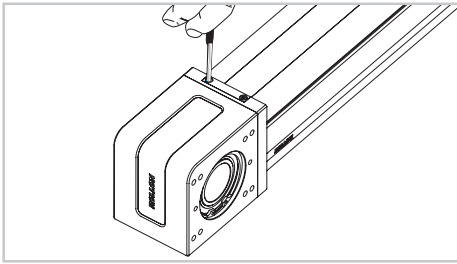

Fig. 4
- 3) Free the belt from the drive head disassembling the lock plate (Fig. 4).